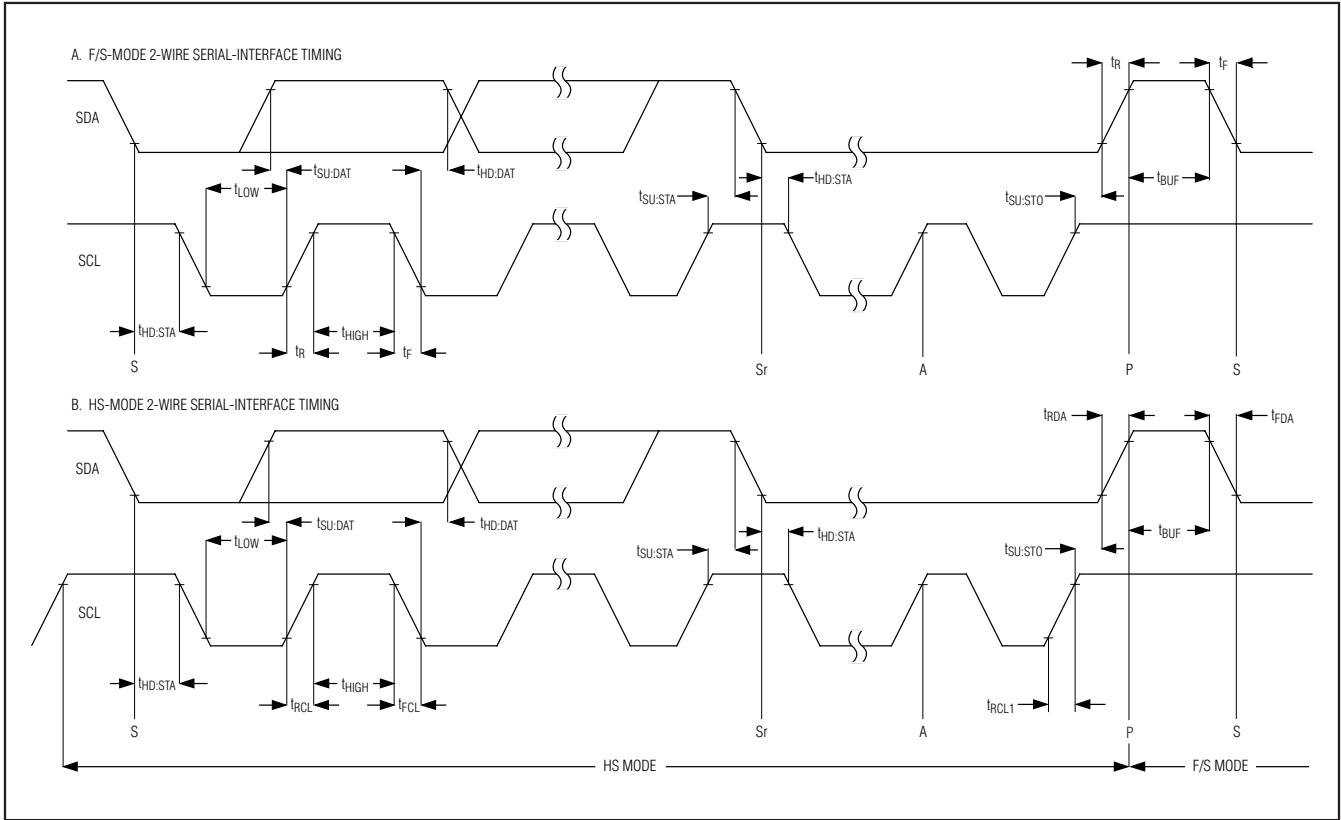

Figure 1. 2-Wire Serial-Interface Timing
## TIMING CHARACTERISTICS (Figure 1)
## TIMING CHARACTERISTICS (Figure 1) (continued)
**Note 11:** A master device must provide a data hold time for SDA (referred to VIL of SCL) to bridge the undefined region of SCL's falling edge (see Figure 1).
high-speed mode (HS mode) to achieve conversion rates up to 94.4ksps. Figure 1 shows the bus timing for the MAX11646/MAX11647's 2-wire interface.